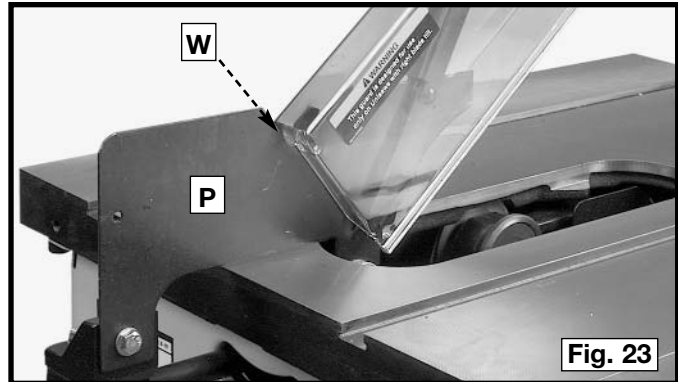

Fig. 23
IMPORTANT: The splitter (P) Fig. 23, features a notch (W) cut into the top edge. Raise the front of the clear blade guard (P) Fig. 23, until the rear edge of the guard slips into notch (W) of the splitter. This notch enables the blade guard to stay in the raised position and makes changing blades easier.